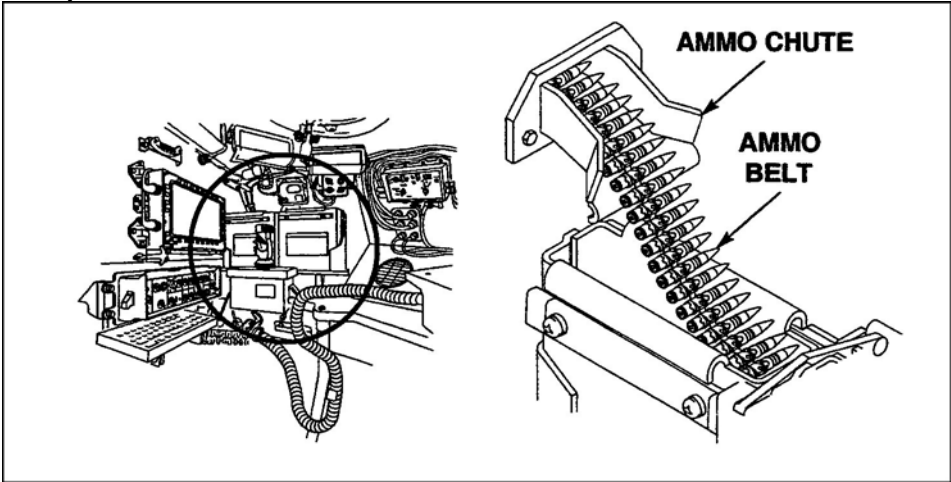

Figure 9. Ammo chute.
- a. Pull the ammunition out of the ammunition feed chute and place it back into the M240C ready box (Figure 9).